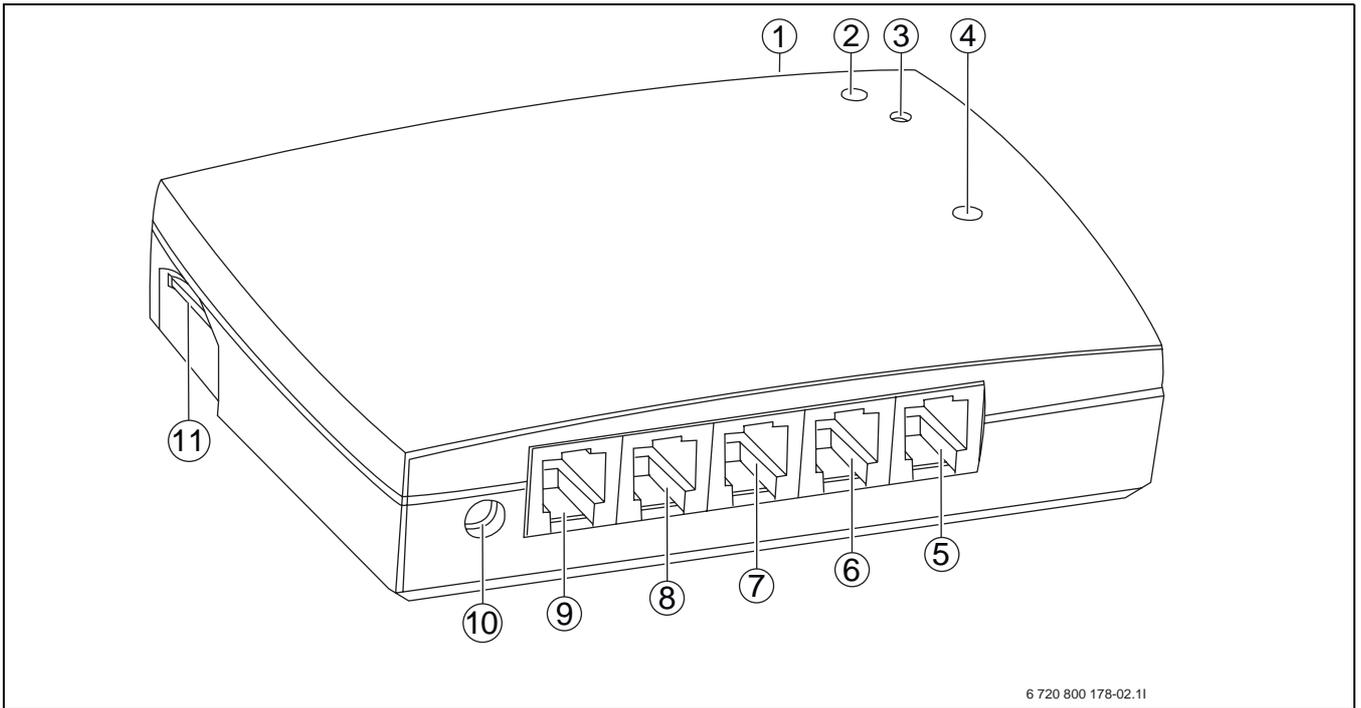

Fig. 74 GSM Control Unit overview
One LED(→ [4] Fig. 74) on the GSM Control Unit indicates various GSM Control Unit statuses depending on how the lamp flashes. (→Tab 141)
When the power is connected the yellow LED on the GSM Control Unit lights(→ [4] Fig. 74) temporarily and is then extinguished.
- ▶ Press the connection button (→ [3] Fig. 74) on the GSM Control Unit until the LED (→ [2] Fig. 74) lights green.
The connection button (→ [3] Fig. 74) can also be used for switching off the GSM Control Unit.
- ▶ Press the button in for five seconds, the LED (→ [2] Fig. 74) then shows red, release the button.